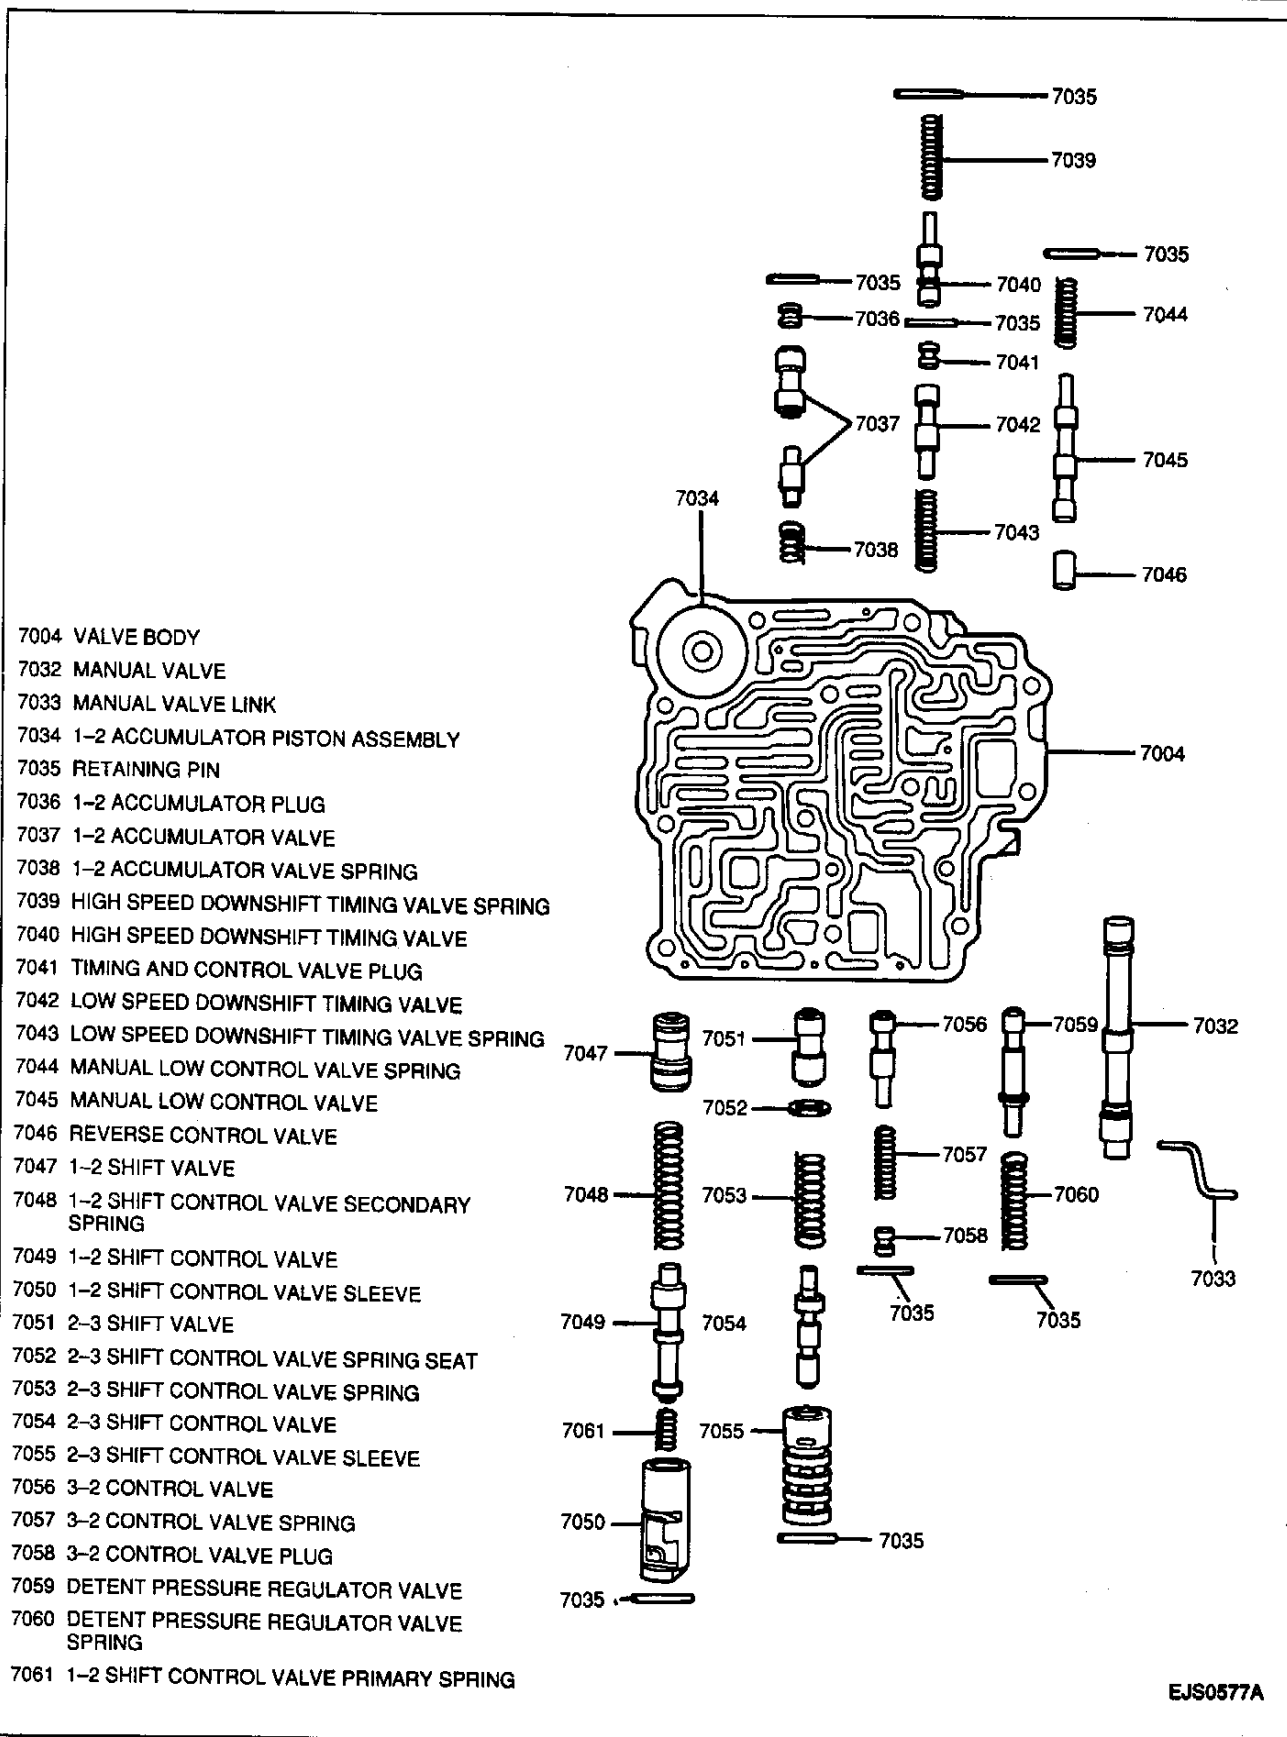

Figure 66—Valve Body Components (3L30, 3-Speed)
3. 2-3-Shift valve, 2-3 control valve spring seat, 2-3 control valve spring, 2-3-Shift control valve and 2-3-Shift control sleeve into valve body; secure with retaining pin (Figure 66).
4. 3-2 control valve, 3-2 control valve spring and 3-2 control valve plug into valve body; secure with retaining pin (Figure 66).
5. Detent pressure regulator valve and detent pressure regulator valve spring into valve body; secure with retaining pin (Figure 66).
6. Reverse control valve, manual low control valve and manual low control valve spring into valve body; secure with retaining pin (Figure 66).
7. Downshift timing valve spring, low speed downshift timing valve, timing and control valve plug, retaining pin, high speed downshift timing valve and downshift timing valve spring into valve body; secure with retaining pin (Figure 66).
8. 1-2 accumulator valve spring, 1-2 accumulator valve and 1-2 accumulator valve plug into valve body; secure with retaining pin (Figure 66).